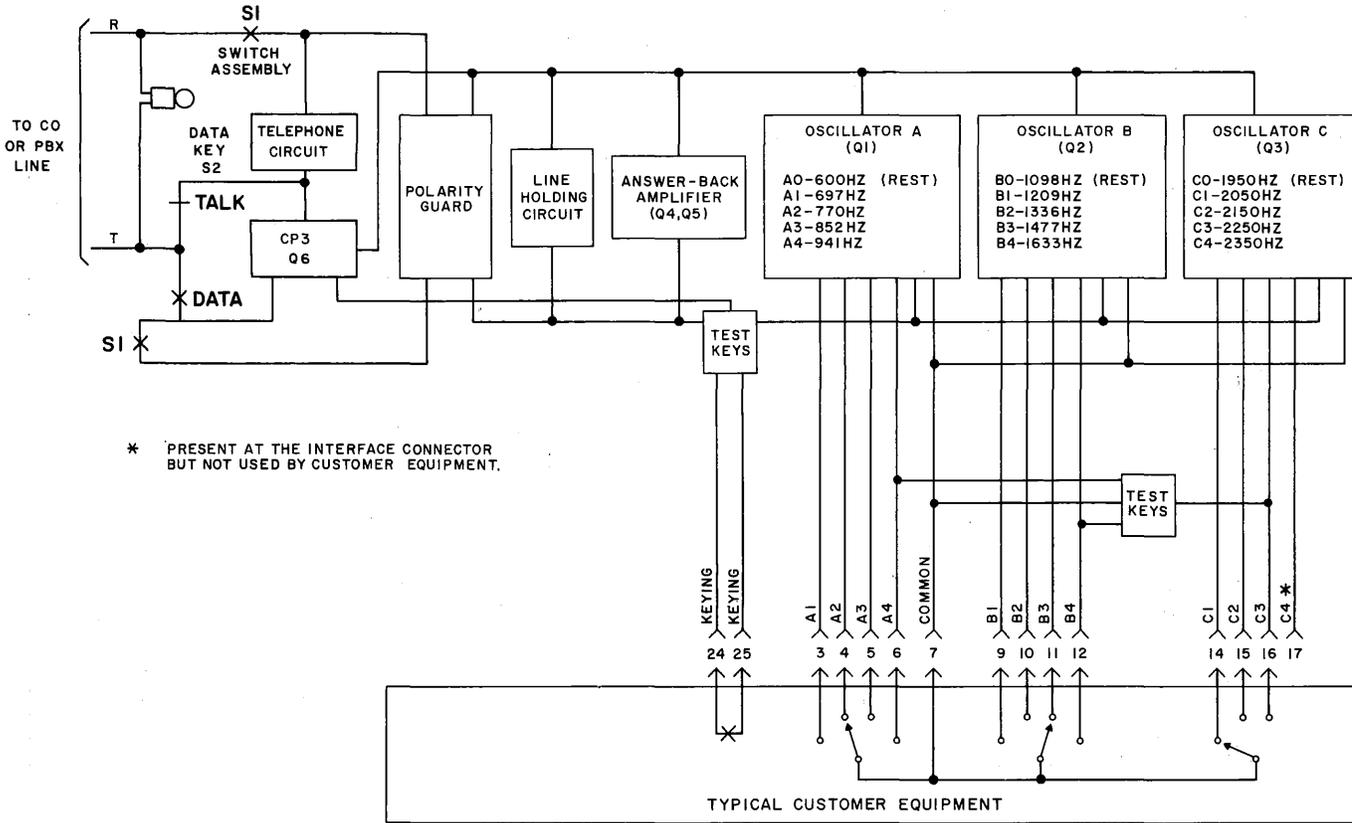
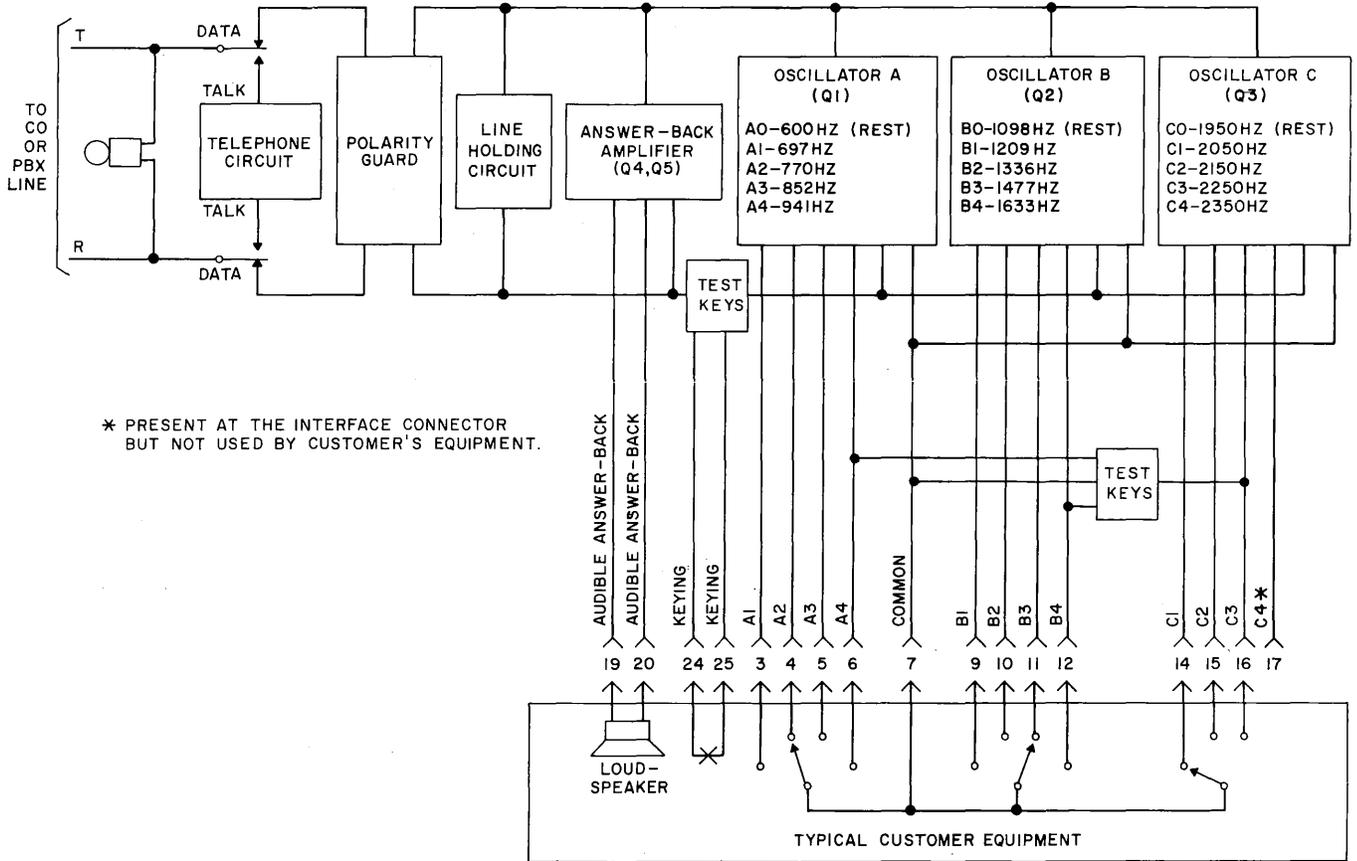

Fig. 4—Data Set 401E3 or 401E5—Block Diagram
Fig. 5—Data Set 401E1, 401E2, or 401E4—Block Diagram
**3.06** Data sets 401E3 and 401E5 (Fig. 4) differ from other data sets 401E-type (Fig. 5) as follows: